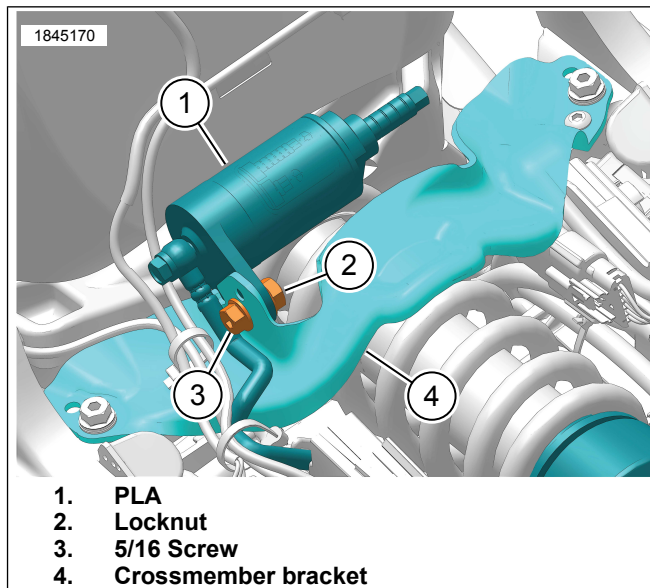

Figure 3. Recall Kit Installed
6. See Figure 3. Install PLA (1) to crossmember (4).
7. Install 5/16-inch screw (3) and locknut (2). Tighten.